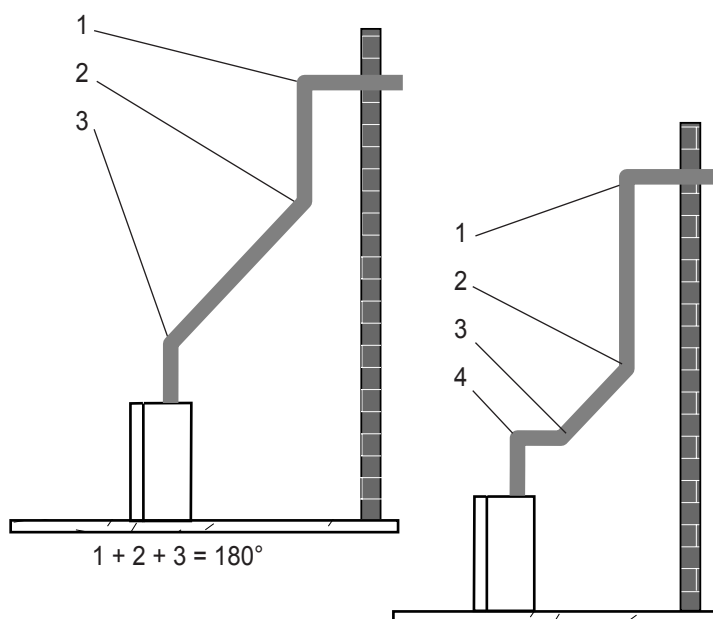

Figure 22 - Maximum Elbow Usage
- The maximum number of 45° elbows permitted per side wall installation is two (2). These elbows can be installed in either the vertical or horizontal run.
- The maximum number of elbow degrees in a system is 270°. See Figure 22.